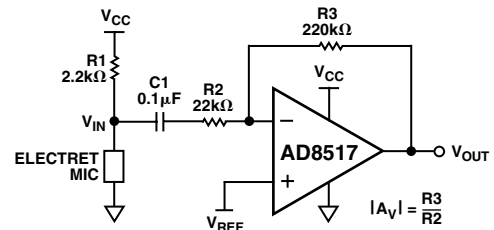

Figure 28. A Microphone Preamplifier
The AD8517 is ideal to use as a microphone preamplifier. Figure 28 shows this implementation.
Figure 28 illustrates a 1.8 V transmit/receive telephone line interface for 600  $\Omega$  transmission systems. It allows full duplex transmission of signals on a transformer-coupled 600  $\Omega$  line in a differential manner. Amplifier A1 provides gain that can be adjusted to meet the modem output drive requirements. Both A1 and A2 are configured to apply the largest possible signal on a single supply to the transformer. Amplifier A3 is configured as a difference amplifier for two reasons: (1) It prevents the transmit signal from interfering with the receive signal and (2) it extracts the receive signal from the transmission line for amplification by A4. A4's gain can be adjusted in the same manner as A1's to meet the modem's input signal requirements. Standard resistor values permit the use of SIP (Single In-line Package) format resistor arrays. Couple this with the AD8517/AD8527's 5-lead SOT-23, 8-lead MSOP, and 8-lead SOIC footprint and this circuit offers a compact solution.